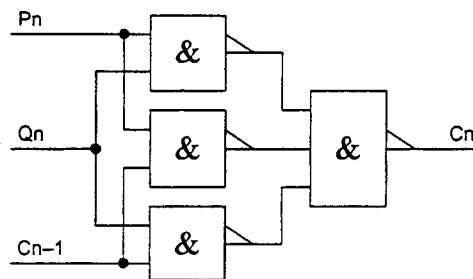

Figure 4.1
4. *Figure 4.1* shows the carry logic for stage n of a full adder circuit. Eight identical stages are cascaded to form the carry logic for an 8-bit adder with $n = 0$ to 7.
- Show that the truth table of the circuit of *Figure 4.1* remains unchanged if inverters are placed at the output and at each of the three inputs. [3]